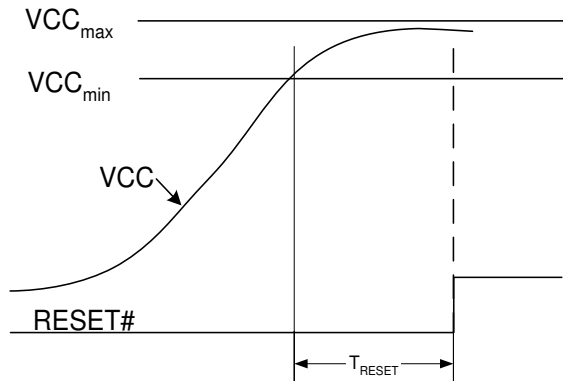
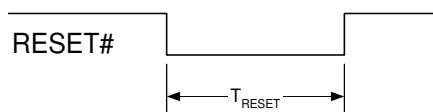

Figure 4.8. Conditions for Use of RESET#
Figure 4.9. RESET# Minimum Timings
1. Reset on RESET# signal can be LOW as the supply becomes stable (shown in Figure 4.8), or pulled LOW for at least TRESET (shown in Figure 4.9).
VCC must be stable between its limits listed in the Normal Operating Conditions section on page 14 for  $T_{RESET}$  before RESET# goes HIGH, as shown in Figure 4.8. Before accessing registers, RESET# must be pulled LOW for  $T_{RESET}$ . This can be done by holding RESET# LOW until  $T_{RESET}$  after stable power, as described above, or by pulling RESET# LOW from a HIGH state for at least  $T_{RESET}$ , as shown in Figure 4.9.